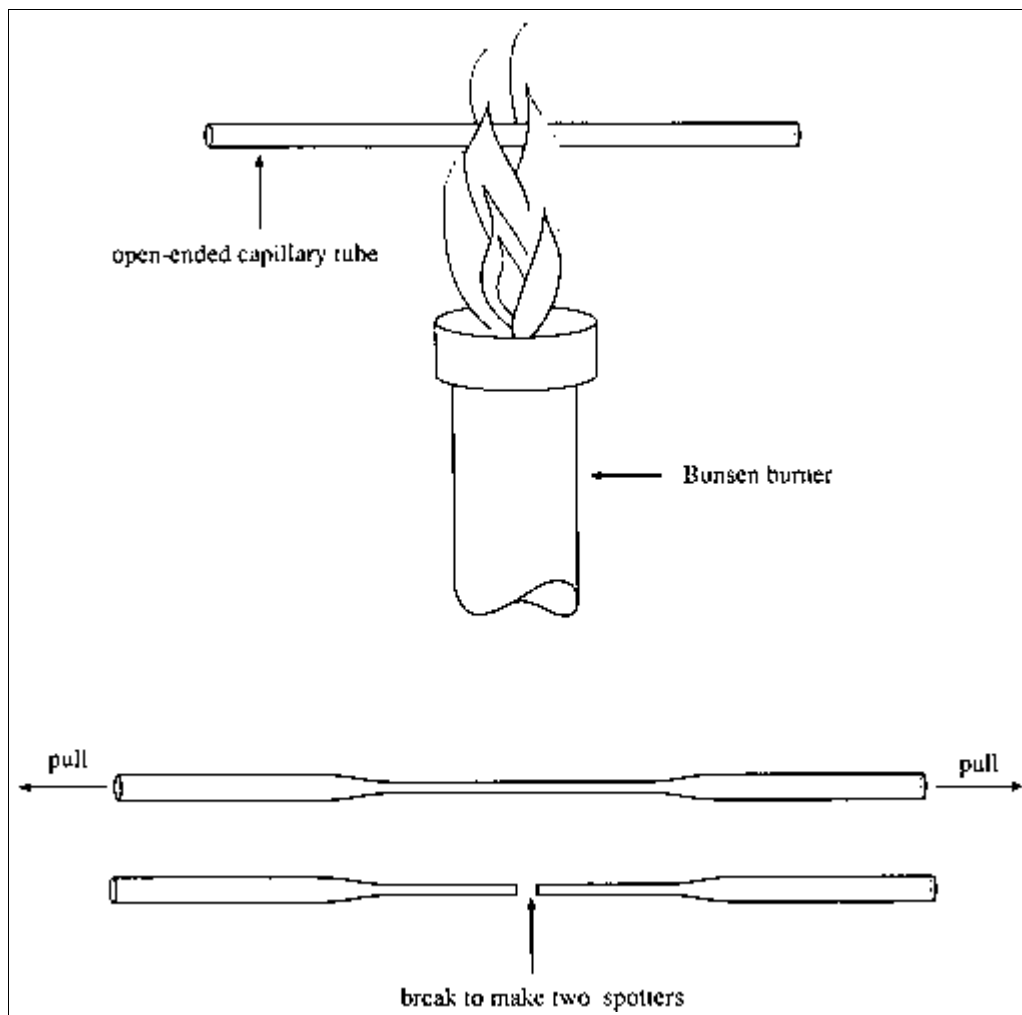

Figure A.3D.5 Preparation of TLC spotters.
2. Immediately remove the capillary tube from the flame and pull the ends in opposite directions (Fig. A.3D.5).